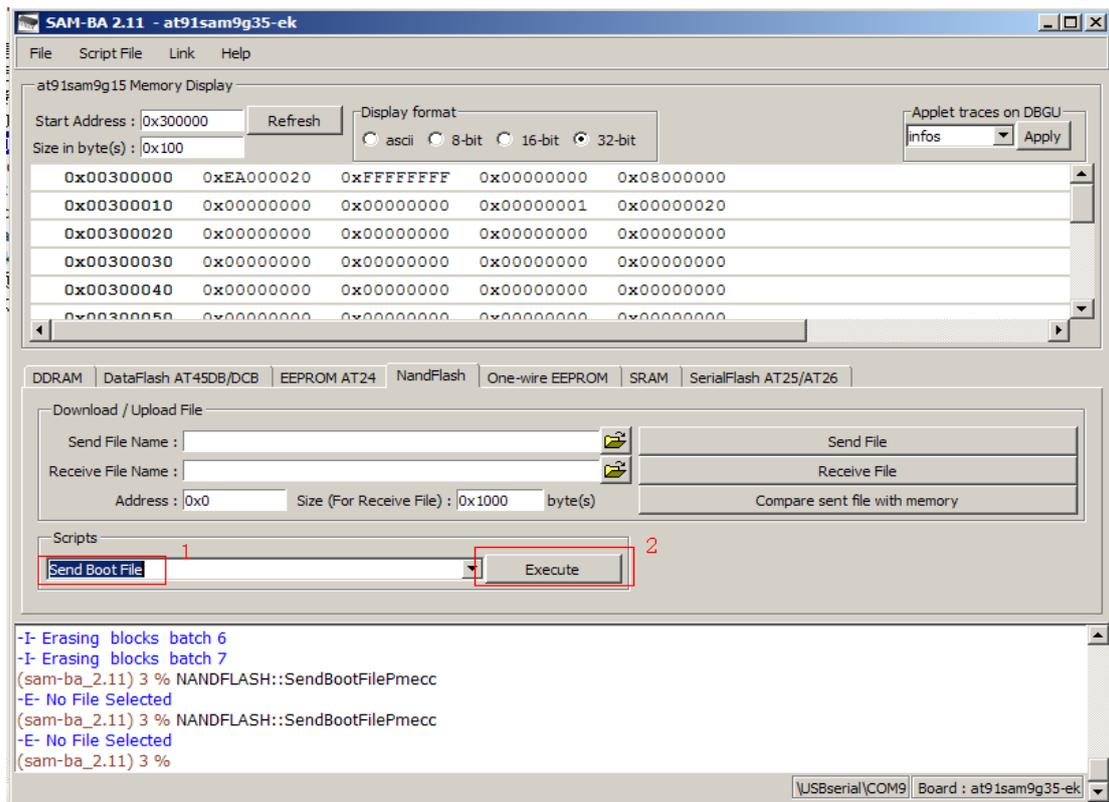

Figure 5-11
(5) Download at91sam9x5ek-nandflashboot-3.1.bin. Refer to figure 5-11, 5-12: